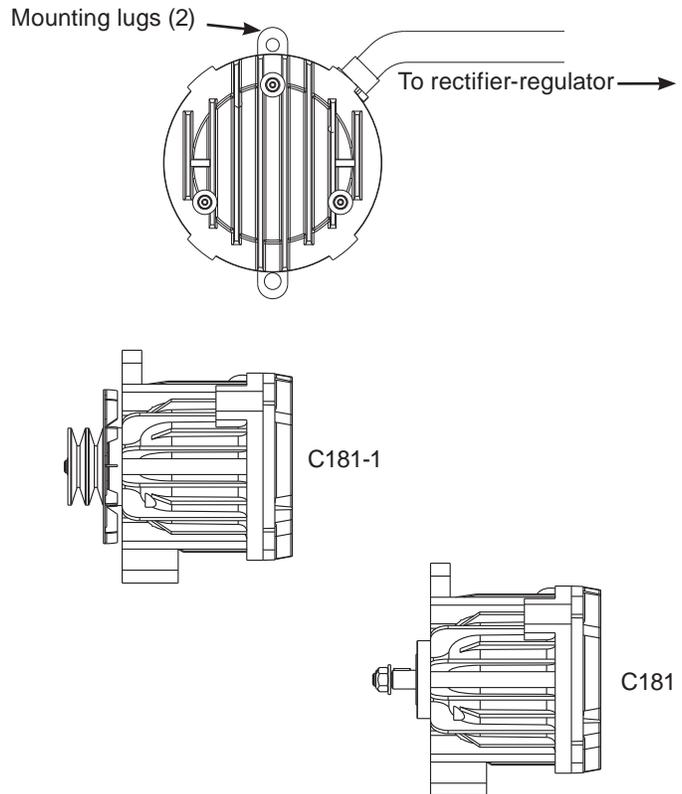

Figure 1 - C181-1/C181 Alternator Details
1. Install alternator with cover oriented in a position that allows best vertical air flow through fins on anti-drive end. See Figure 1 and 2: